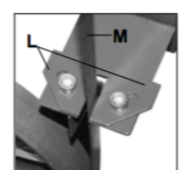

Figure 7
Once the top part of the blade is set, the bottom will need adjustment. First, loosen the two socket screws to adjust the Guide Plates (L), making sure there is at least 1/32" space between the edges of the guide plates and saw blade (M) (Figure 7).